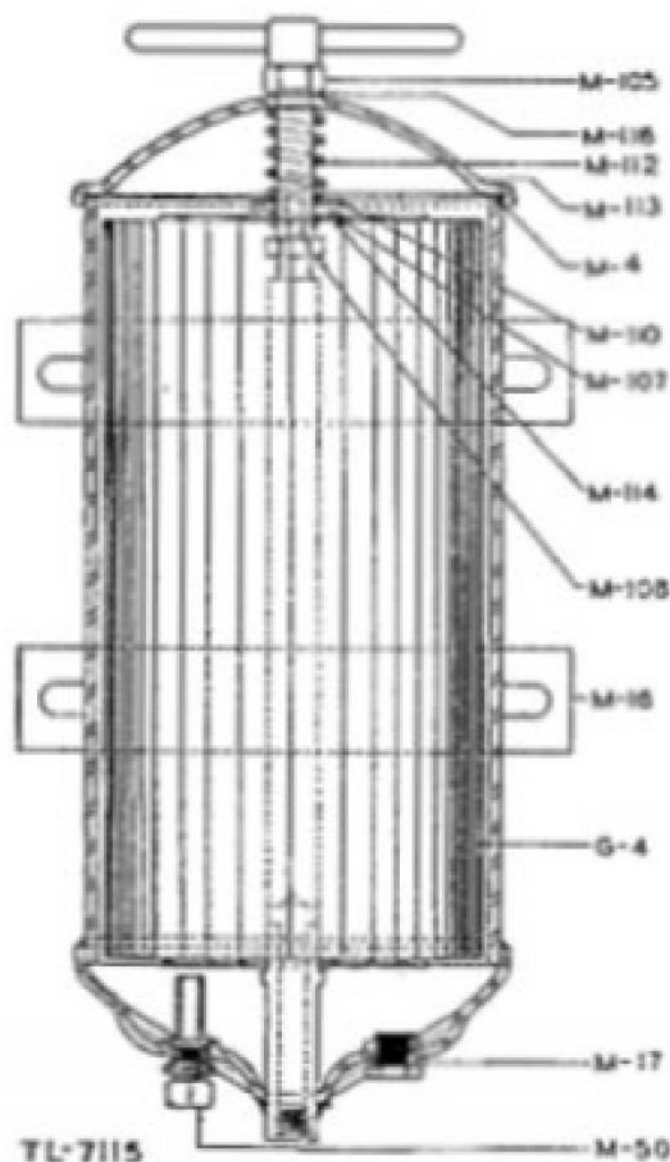

Figure 6. Zenith Carburetor.
c. **OIL FILTER.** A replaceable, cartridge type, lubricating oil filter, or clarifier, is conveniently located on the left side of the engine. In operation, a quantity of oil is bypassed from the main circulatory system, through the filter element to the crankcase. (See fig. 6.)